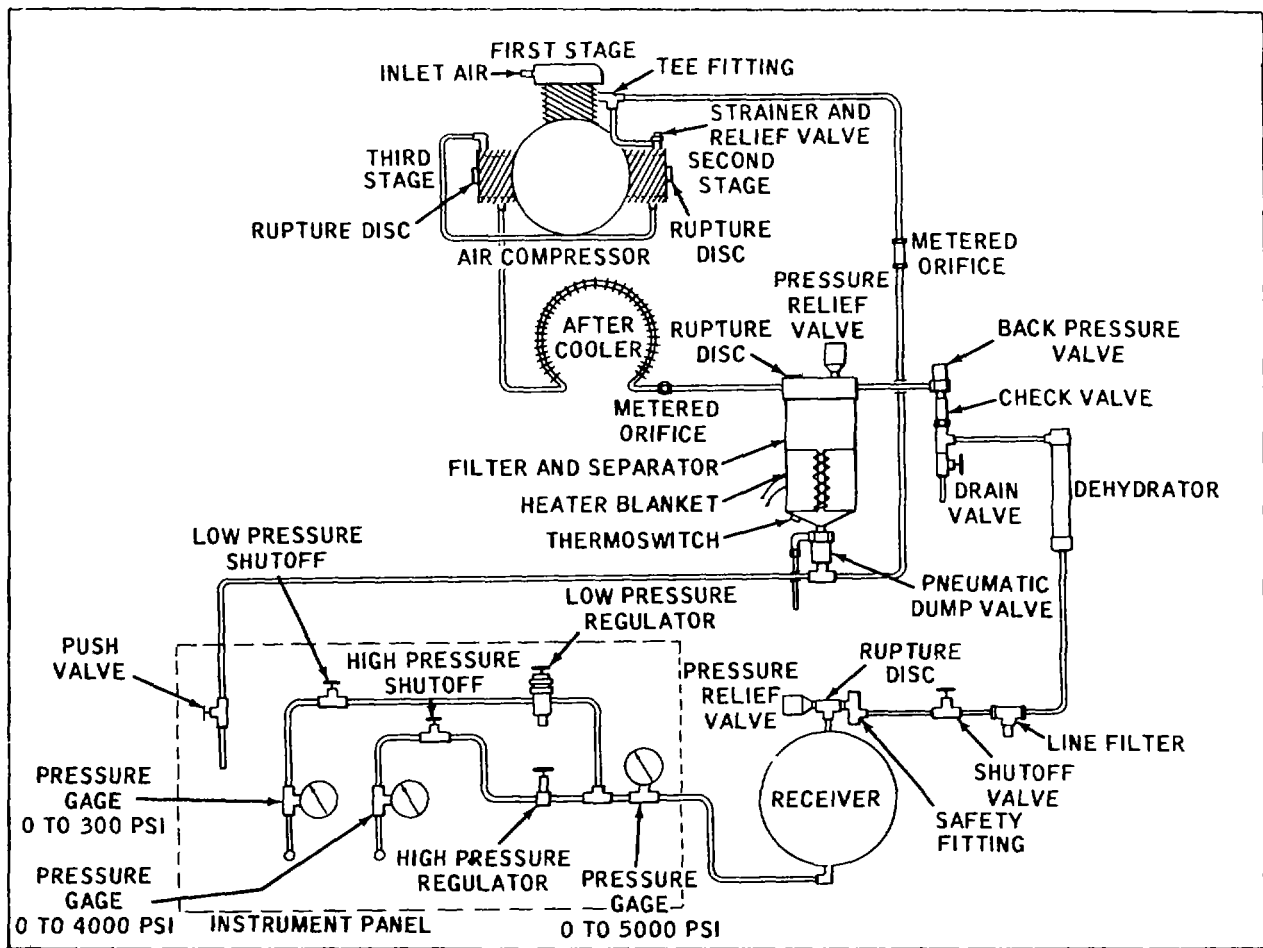

Figure 1-5. Pneumatic System Schematic Diagram (Model 3800219-1)
1.5.3 The pneumatic system of the compressor package assembly is illustrated schematically in Figure 1-5. The function of each component assembly used in the system is described in the following paragraphs.